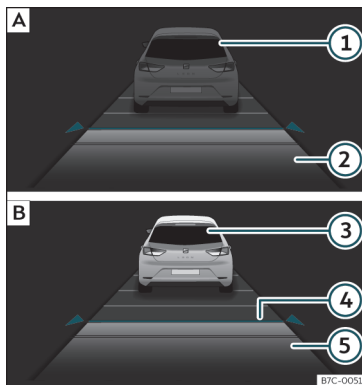
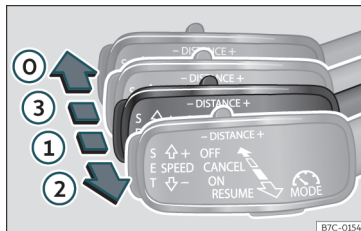
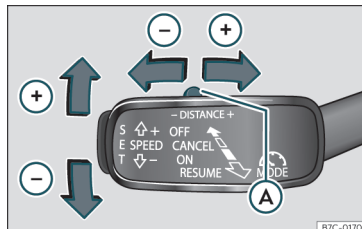

Fig. 210 On the instrument panel display: (A) ACC inactive (Standby). (B) ACC active.
Fig. 212 On the left of the steering column: third lever for operating the Adaptive Cruise Control.
Fig. 213 On the left of the steering column: third lever for operating the Adaptive Cruise Control.
Indications on the display >>> **Fig. 210:**
When the Adaptive Cruise Control (ACC) is connected, the green control lamp (🟢) will light up on the instrument panel, and the programmed speed and ACC status will be displayed >>> **Fig. 210**.
Once you are driving, if you wish to set the current speed as the vehicle's cruise speed and activate the ACC, press the **SET** >>> Fig. 213 button. If you wish to increase or reduce speed by intervals of 1 km/h (0.6 mph), move the lever to position ② >>> Fig. 212 or press the **SET** button, respectively.
The set speed can be changed when the vehicle is stopped or during driving, as you like. Any modification to the programmed speed will be shown on the bottom left part of the instrument panel display >>> Fig. 210.
To increase/reduce the distance level, press the rocker switch towards the left/right >>> Fig. 213 A).
- To activate the ACC, with the third lever in position ① press the **SET** button or move the third lever of the ACC to position ② >>> Fig. 212. At this point, the image of the ACC on the instrument panel display will switch to Active mode >>> Fig. 210.
To disconnect the ACC move the lever to the ③ position >>> Fig. 212 (engaged). An **ACC deactivated** message appears and the function is totally deactivated.
If you do not wish to disconnect the ACC, just to switch it temporarily to inactive mode (Standby), move the third lever to position ③ >>> Fig. 212 or press the brake pedal.